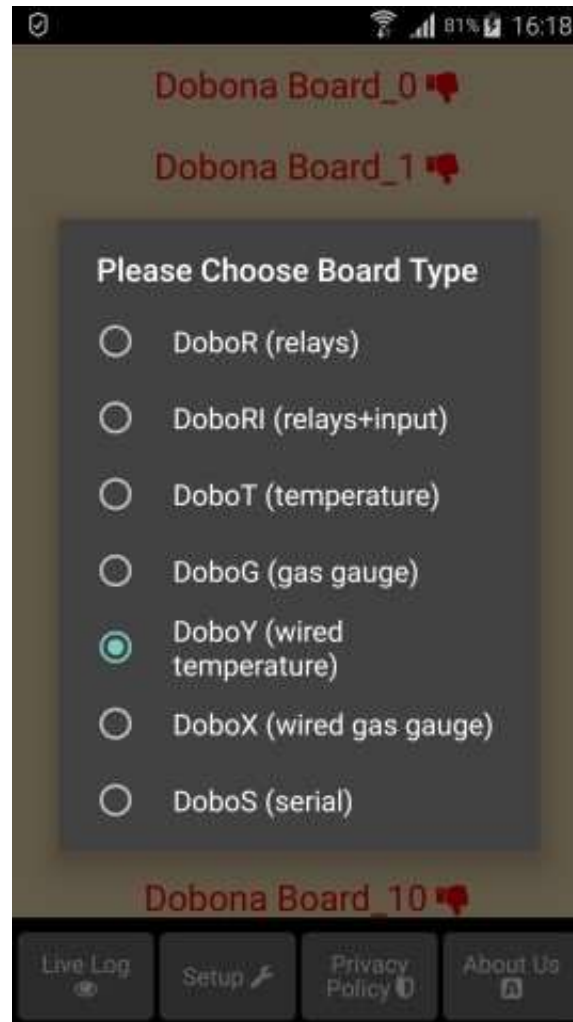

Fig 3.
6. IN ORDER TO SETUP A BOARD, THE SHOULD PRESS ANY OF THE RED LINES. SUPPOSING HE PRESSES ON THE FIRST LINE (Dobona Board#0), AFTER WHICH HE IS PRESENTED WITH A POPUP SCREEN TO CHOOSE THE BOARD TYPE (Fig.3). SINCE WE ARE INTERESTED IN DOBOY BOARD ONLY IN THIS PDF, THE USER SHOULD PRESS THE DoboY (wired temperature).